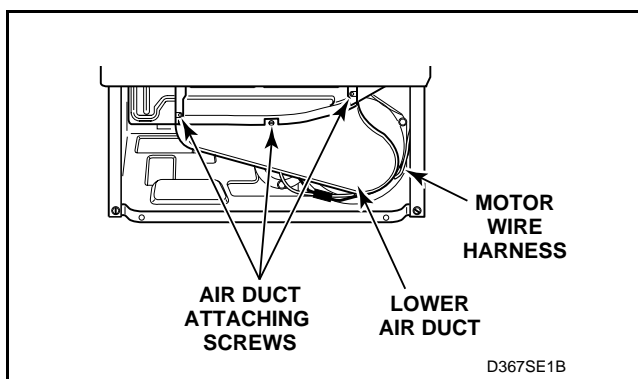
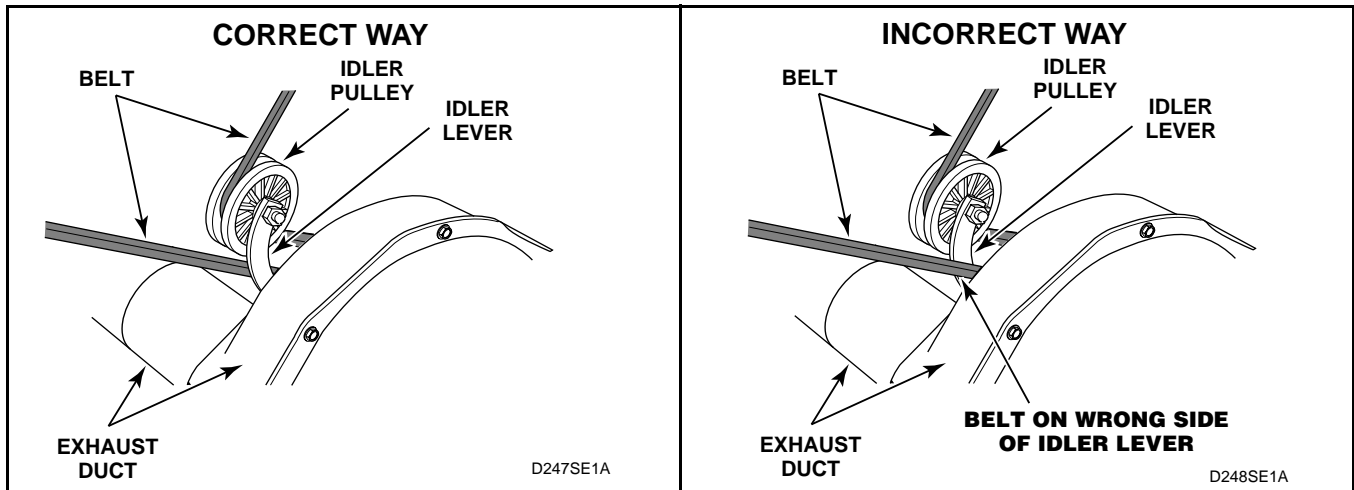
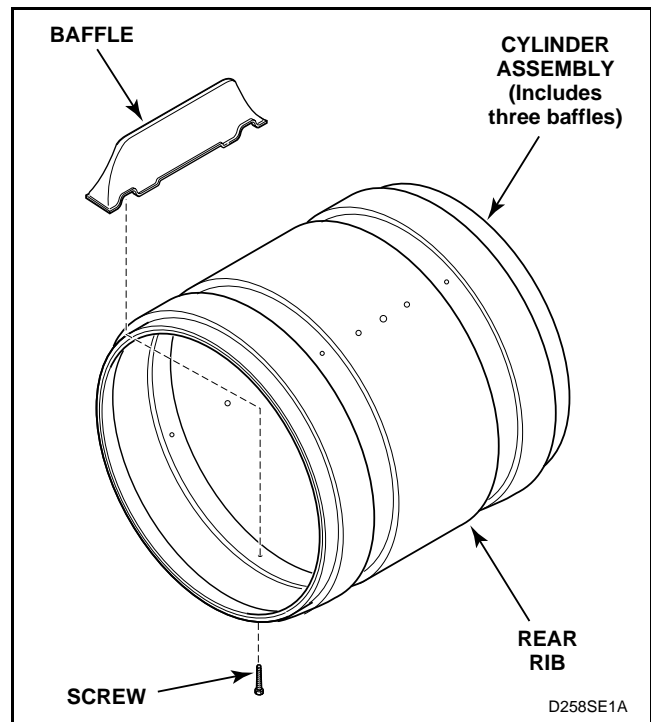

Figure 25
Figure 27
Figure 36
- Remove three screws holding lower duct to upper duct and remove lower air duct. See *Figure 25*.
- Remove screws holding lower air duct to upper air duct and remove lower air duct. See *Figure 25*.
- Remove cylinder belt from idler and motor pulleys. See *Figure 27*.
IMPORTANT: When reinstalling motor and exhaust assembly, be sure wire harness on right side is clipped to motor mounting bracket and is routed along dryer base (between motor mounting bracket and right side of cabinet). See *Figure 25*. Tab on rear of motor mounting bracket must be slid into slot in dryer base. Be sure the belt has been installed on the correct side of the idler lever. See *Figure 27*.
- Disengage belt from motor and idler pulley. See *Figure 27*.
- Disengage belt from motor and idler pulleys. See *Figure 27*.
NOTE: When reinstalling belt, be sure belt is properly installed on motor and idler pulleys, and is on the correct side of the idler lever. See *Figure 27*. Belt must be positioned around center section of cylinder approximately three inches ahead of rear rib on cylinder. See *Figure 36*. After installing belt, manually rotate cylinder counterclockwise to check that belt is properly aligned.
NOTE: When reinstalling belt, be sure belt is properly installed on motor and idler pulleys, and is on the correct side of the idler lever. See *Figure 27*. Belt must be positioned around center section of cylinder approximately three inches ahead of rear rib on cylinder, with the ribbed surface of the belt against the cylinder. See *Figure 36*. After installing belt, manually rotate cylinder counterclockwise to check that belt is properly aligned.
- Baffles – Remove screws holding baffles to cylinder. See *Figure 36*.
NOTE: When reinstalling belt, be sure belt is properly installed on motor and idler pulleys and is on the correct side of the idler pulleys. See *Figure 27*. Belt must be positioned around center section of cylinder approximately three inches ahead of rear rib on cylinder with the ribbed surface of the belt against cylinder. See *Figure 36*. After installing belt, manually rotate cylinder counterclockwise to check that belt is properly aligned.
NOTE: When reinstalling belt, be sure belt is properly installed on motor and idler pulleys and is on the correct side of the idler pulleys. See *Figure 27*. Belt must be positioned around cylinder approximately three inches ahead of rear rib on cylinder with the ribbed surface of the belt against the cylinder. See *Figure 36*. After installing belt, manually rotate cylinder counterclockwise to check that belt is properly aligned.